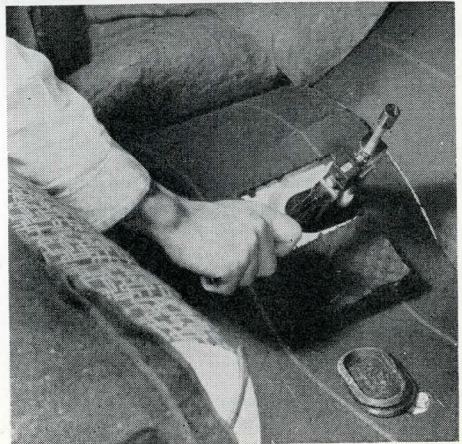

Figure 13
2. Using band adjusting tool (ATC-50A or AT-50), loosen rear band adjusting screw lock nut. Fig. 13.